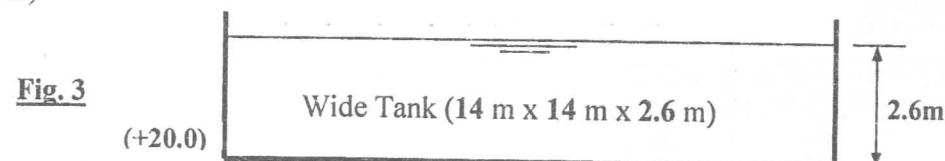

Fig. 3
A. For the shown cross section of an elevated wide tank in Fig.3, it is required to carry out the following: (12 marks)